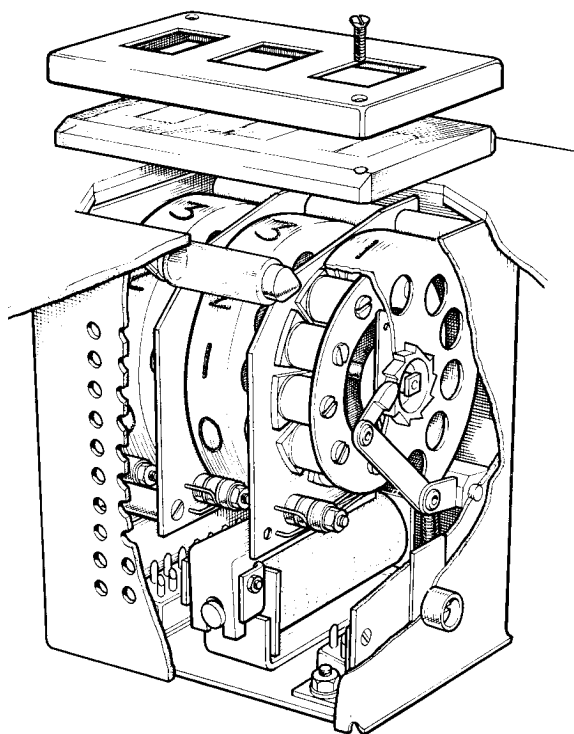

Fig. 6. Indicator, electrical Type 12956
41. Three of these indicators (fig. 6) are mounted on each of the desks Type 16284 and 16286. The purpose of the indicators is to enable any three digit number, representing hundreds of feet, to be displayed.